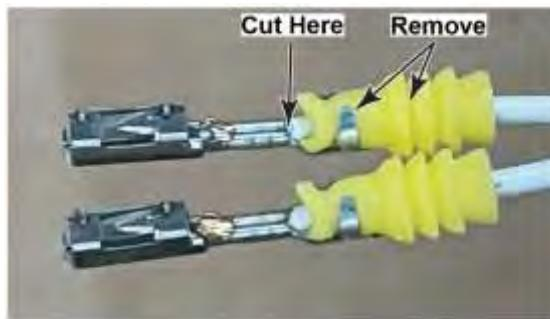

Figure 121
(4) If contacts are being replaced, cut wire behind the end of the contact conductor crimp and remove the remaining portion of the contact and wire seal from the wire (Figure 121).